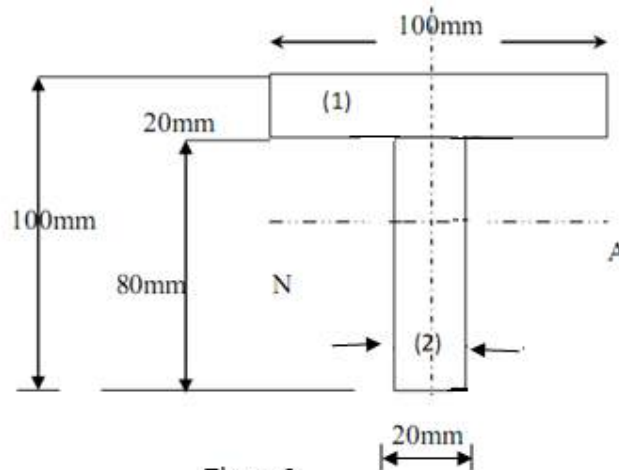

Figure 5
- 8 The shear force acting on a T section of a beam is 50 kN as shown in Figure 5. Calculate the shear stress at the neutral axis and at the junction of the web and the flange and draw stress variation. 15